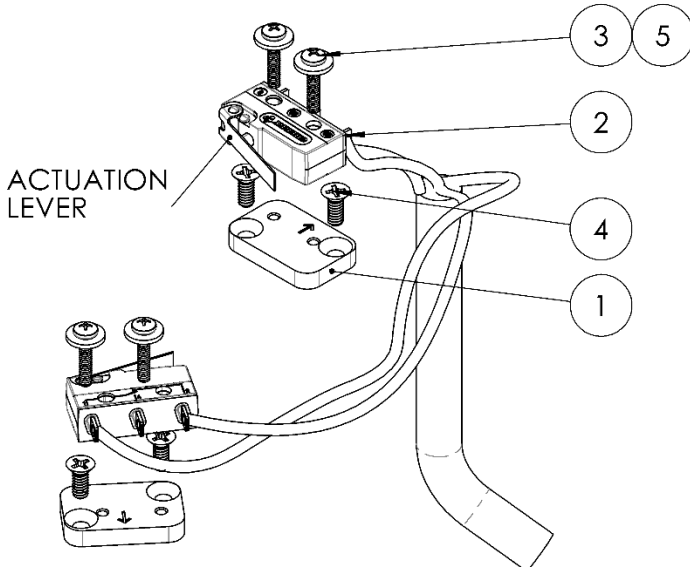
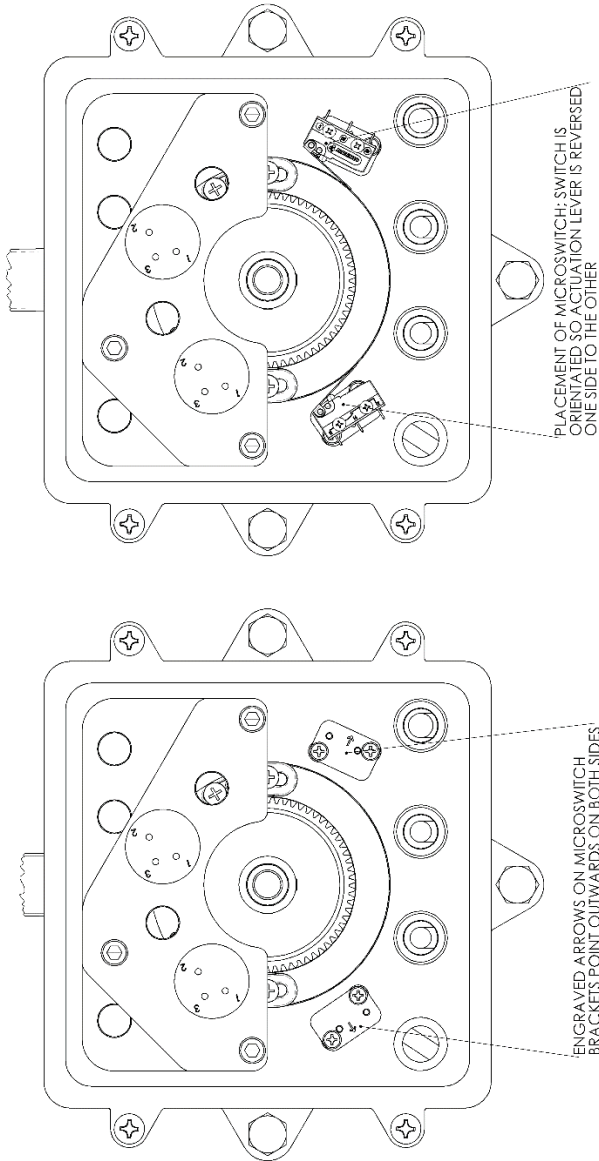
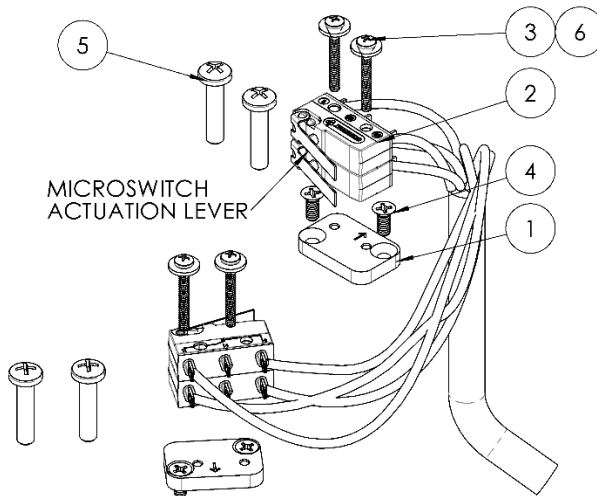
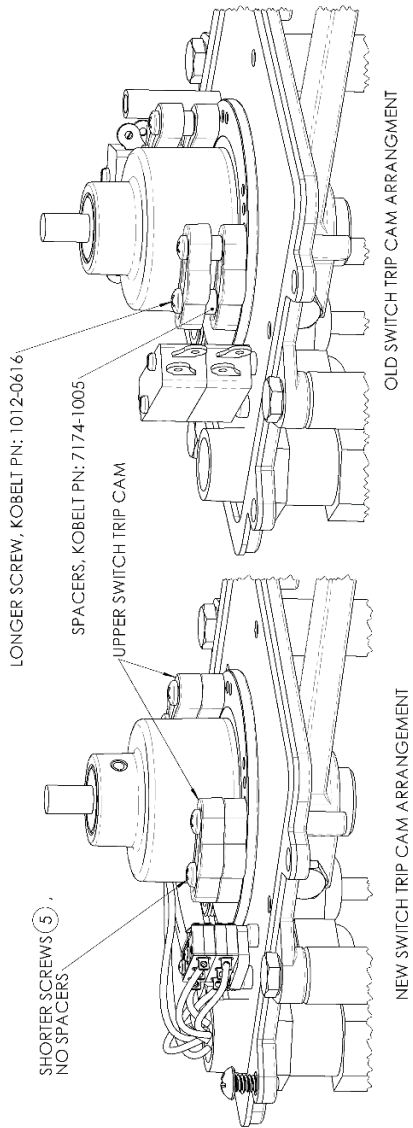

Figure 12: Microswitch retrofit kit, 7174-RF-01
Figure 14: Placement of microswitch and microswitch bracket, 7174-B shown.
Figure 17: Microswitch retrofit kit, 7174-RF-02
Figure 19: Arrangement of switch trip cams old microswitch and new microswitch
3. Refer to Figure 14 and note the engraved arrow on the microswitch bracket ① is facing outwards on both sides of RFU.
4. Apply Loctite 243(Blue) to X2 Flat head screws ④.
5. Install bracket ① with screws ④ into the RFU cover plate, 7174-0002, ensuring the engraved arrow is correctly orientated.
6. Refer to Figure 14 and note the orientation of the installed microswitch ② on each side of the RFU.
8. Place the microswitch ② on top of the bracket ① orientating the microswitch so the actuation lever is as shown in Figure 14. For reference, the actuation lever is pointed to in Figure 12.
9. Apply Loctite 243(Blue) to X2 pan head screws ③.
10. Use X2 screws ③ and washers ⑤ and tighten snug to secure the microswitch ② for positioning.
6. Refer to Figure 14 and note the orientation of the microswitch ② on both sides of the RFU.
8. Place the microswitches ② on top of the bracket ① orientating the microswitches so the actuation lever is as shown in Figure 14. For reference, the actuation lever is pointed to in Figure 17.
10. Use X2 screws ③ and 2X washer ⑥ for each microswitch and tighten snug onto the microswitches ②.
11. Review the old versus new arrangement of the switch trip cams shown in Figure 19.
14. Apply Loctite 243(Blue) to the shorter screws ⑤ included in the retrofit kit.
15. Replace the upper switch trip cam and secure with the shorter screws ⑤, leaving out the spacer.